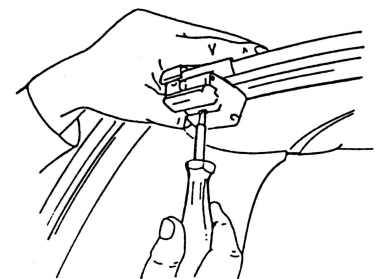

FIG.10
- Op.17 Finally, check the rear latch adjustment and ensure that the front of the canvas is almost touching the rear edge of the roll bar. The catch may require adjustment to clamp the canvas in the correct position and turning the central screw to increase or decrease the tension. FIG.10